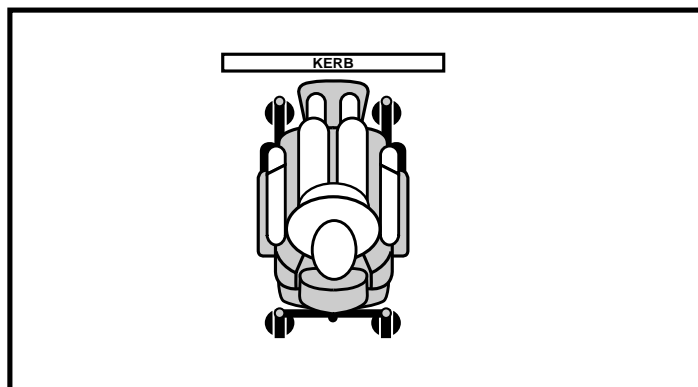

Figure 2. Correct Kerb Approach
1. Approach the kerb or obstacle slowly, and make sure the power chair is traveling perpendicular to the obstacle. See figure 2.